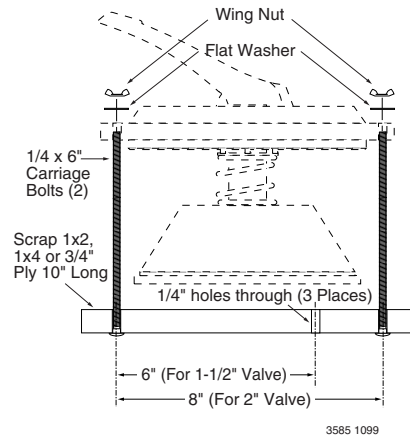

Figure 1 – Fixture dimensions for valve spring compressor
5. Compress plug as shown in Figures 1 and 2.
8. Reassemble plug, cover, and handle by compressing spring (See Figures 1 and 2) and reversing procedure on Page 4.